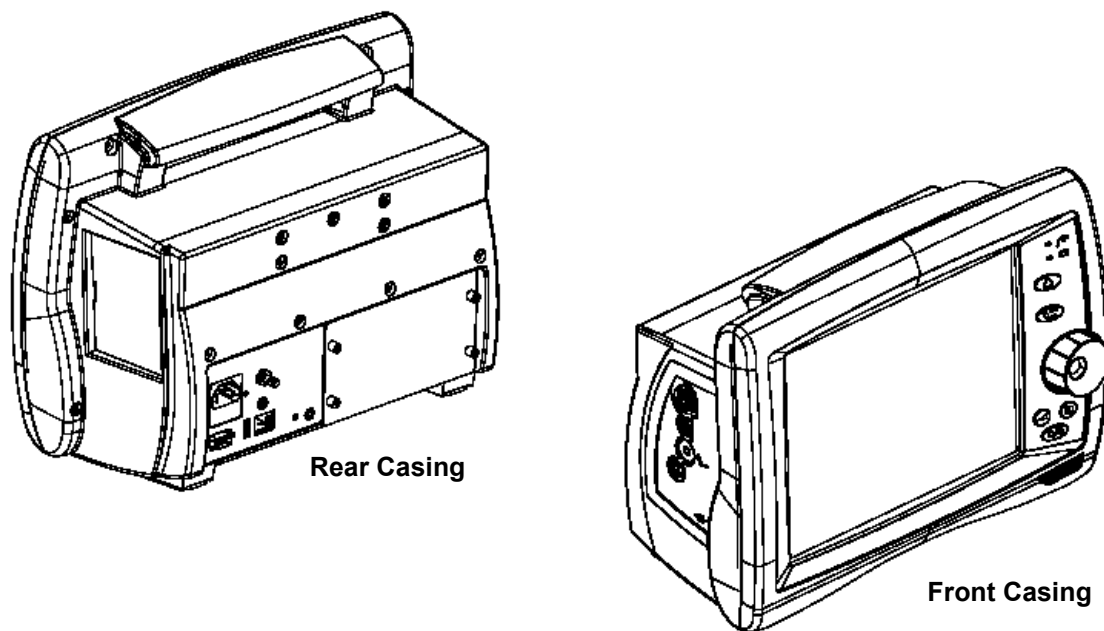

Figure 8-1
**Item No.** corresponds to the callout number in Figure 8-1 through 8-6. the **Page Ref. for Disassembly** indicates the page number of the relevant disassembly procedures in *Chapter 7, "Disassembly"*.